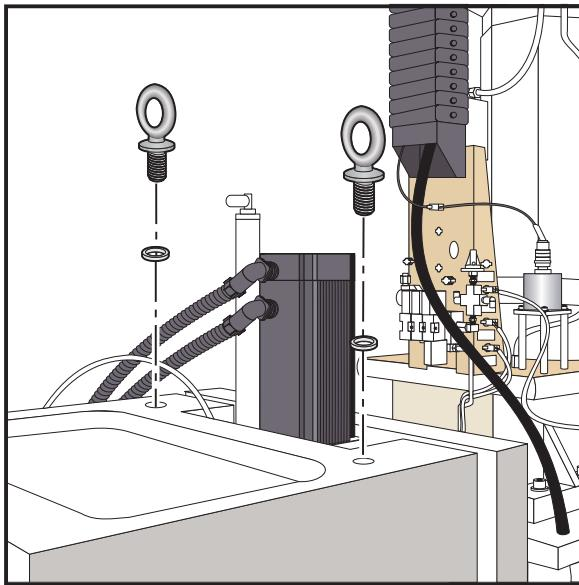

Fig. 1.9-2 VF-0/1/2 eyebolt locations.
2. Place a washer on each of the 3/4-10 x 1-3/16" eyebolts and mount to the top of the column as shown in figure 1.9-2. Tighten securely.